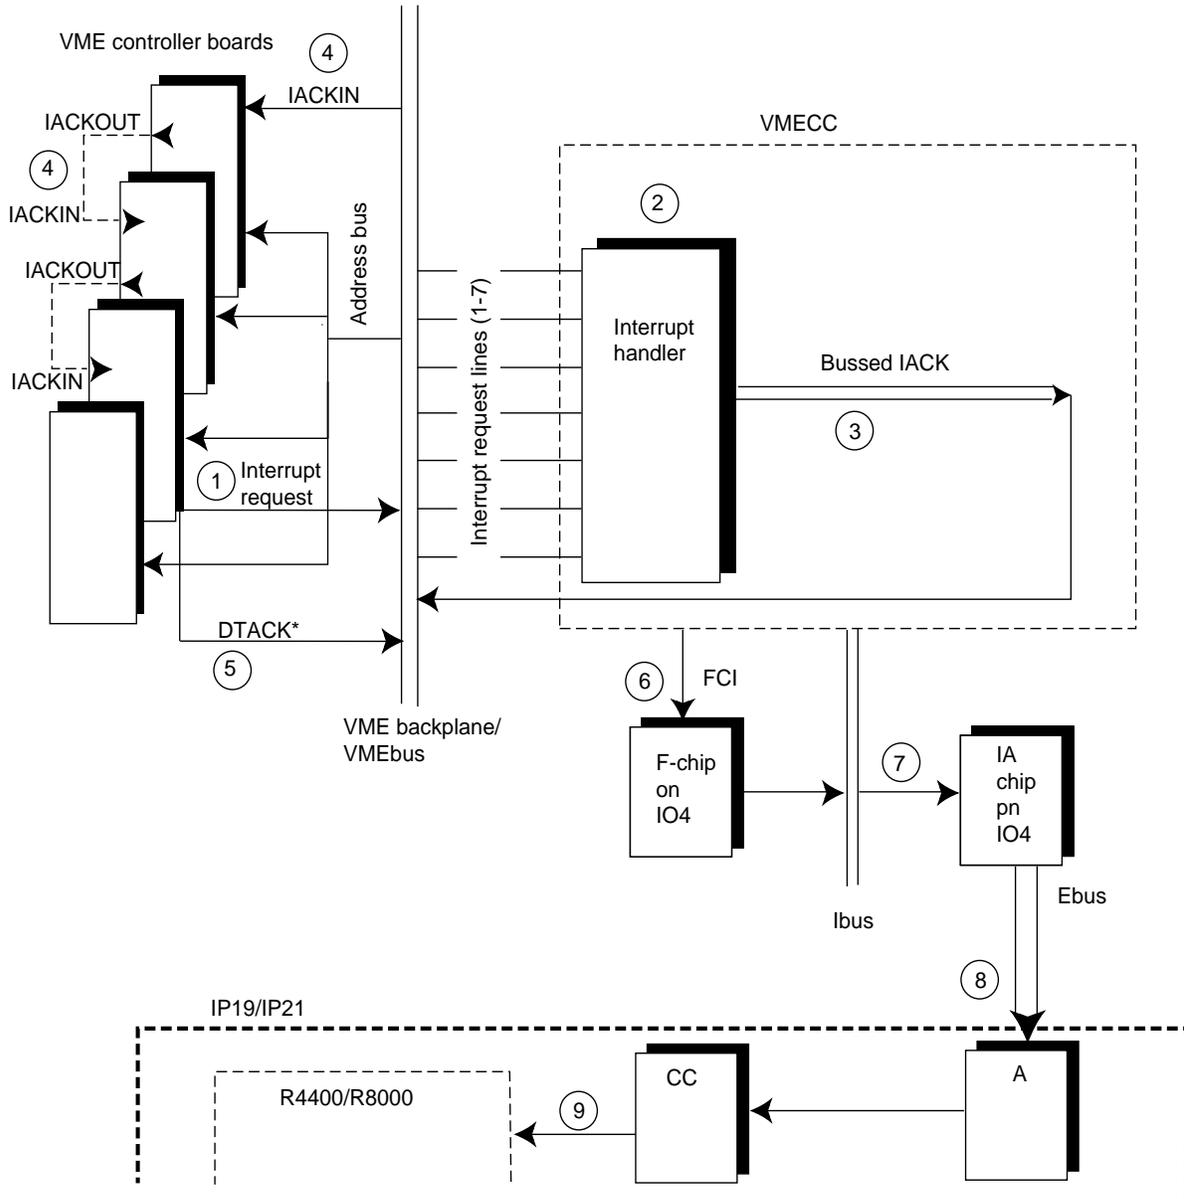

Figure E-5 VMEbus Interrupt Generation
The following and Figure E-5 outline how a VMEbus interrupt is generated.
4. If multiple VME boards are present, the bused IACK signal is sent to the first VME controller as an IACKIN. As shown in Figure E-5, since the first controller is not the requesting master, it passes the IACKIN signal to the next board (in the daisy-chain) as IACKOUT.